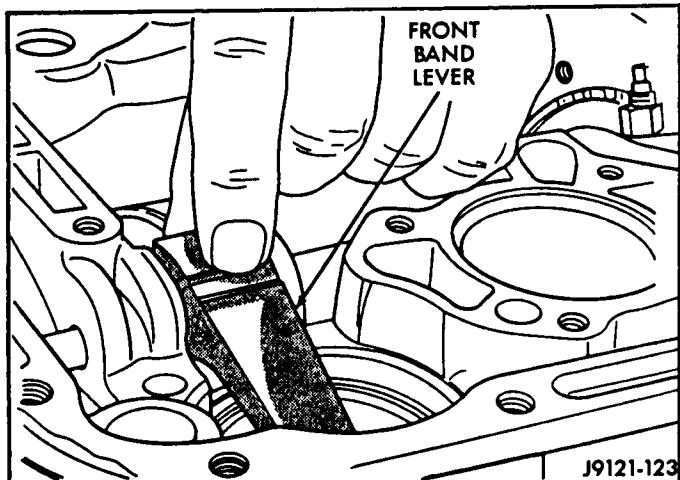

Figure 138
24. Align the front band lever with bores in the case and push pivot shaft all the way into the case(See Figure 138).